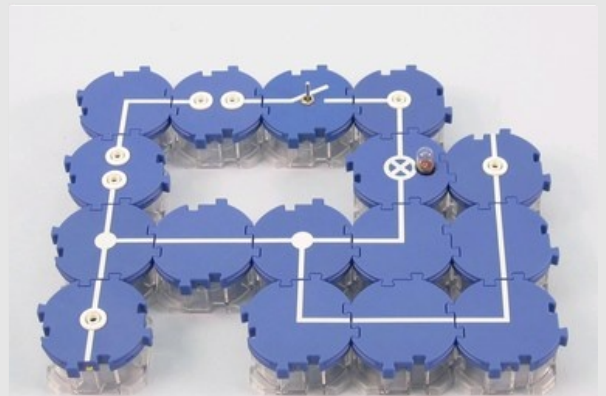

Fig. 3
- Modify the experiment according to Fig. 3 and Fig. 4 and repeat the experiment.